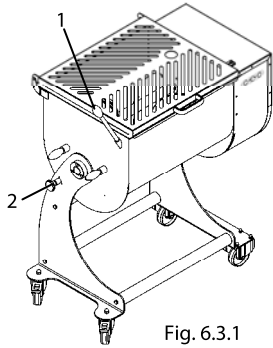
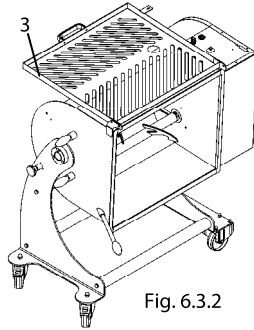

Fig. 6.3.1
Fig. 6.3.2
- With the bowl in a horizontal position grip the handle on the bowl tilting bar “1” Fig. 6.3.1.
- Pull the tank locking knob “2” Fig. 6.3.1.
- Once having released the mixing bowl rotate (Fig. 6.3.2) by pulling the tilting bar “1” Fig. 6.3.1.
- Open the protection grille “3” Fig. 6.3.2 and empty the bowl.
- Once having released the mixing bowl rotate (Fig. 6.3.2) by pulling the tilting bar “1” Fig. 6.3.3.